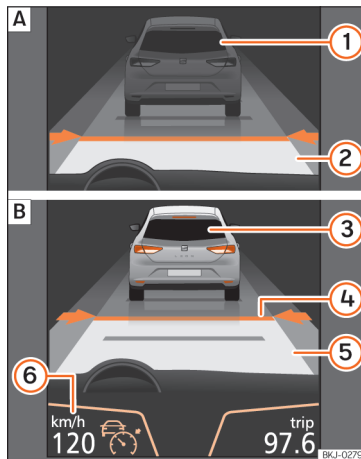
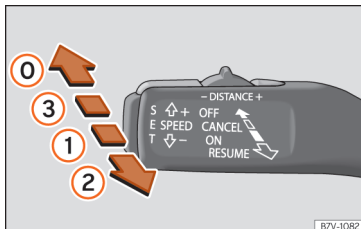
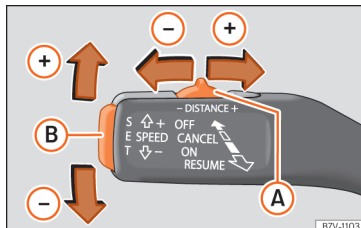

Fig. 255 On the instrument panel display: [A] ACC inactive (Standby). [B] ACC active.
Fig. 256 On the left of the steering column: operating the ACC with the third lever.
Fig. 257 On the left of the steering column: operating the ACC with the third lever.
Indications on the display » **Fig. 255:**
When the ACC is connected, the green control lamp (ACC) will light up on the instrument panel, and the programmed speed and ACC status will be displayed » **Fig. 255**.
- To activate the ACC, move the third lever to position **ON** » **Fig. 256** ①. At this time, the ACC is not active and there is no programmed speed.
- Next, press button **SET** » **Fig. 257** ② or move the lever to position **RESUME** » **Fig. 256** ②. At this moment the ACC is activated and the current speed and distance are programmed. The picture in the box will change to Active mode » **Fig. 255** ③.
- To set the speed, move the third lever up (+) or down (-) to the desired speed » **Fig. 255** ④. The speed adjustment is made at 10 km/h (6 mph) intervals.
- If you wish to increase speed by intervals of 1 km/h [0.6 mph], move the lever to position **RESUME** » Fig. 256 ②, or to decrease it press button **SET** » Fig. 257 ⑧.
- To increase or reduce the distance, press button ① to the right or left » Fig. 257.
The instrument panel display modifies the selected distance » Fig. 255 ④. There are 5 distance levels to choose from. SEAT recommends level 3. The set distance can be changed when the vehicle is stopped or while driving » ①.
- To disconnect the ACC move the lever to position **OFF** (fixed) » Fig. 256 ①. An **ACC deactivated** message appears and the function is totally deactivated.
System acceleration can be interrupted at any time by pressing the brake or moving the third lever to position **CANCEL** » **Fig. 256** .
When entering or leaving some curves, the radar sensor may cease to sense the vehicle driving in front of it, or react to a vehicle in the adjacent lane » **Fig. 258** [A]. The vehicle may brake unnecessarily or stop reacting to the vehicle in front. In this case, the driver has to intervene by accelerating or interrupting braking by applying the brake or pushing the third lever to position **CANCEL** » **Fig. 256** .